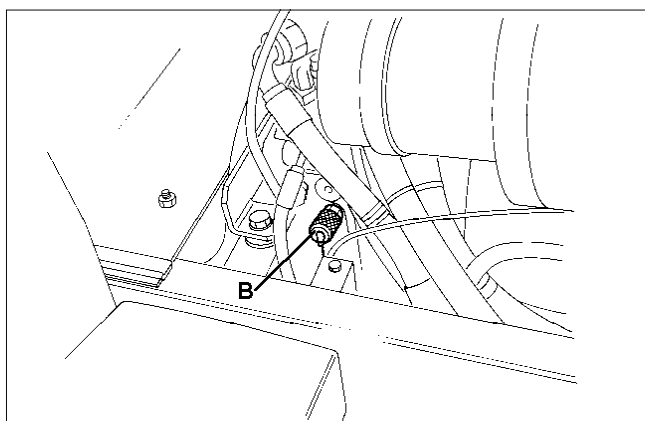

Fig.53
2. Transmission pressure reverse 210 bar (3045psi) (B Fig.53):
2. Pression de transmission en arrière : 210 bars (Fig. 53 "B").